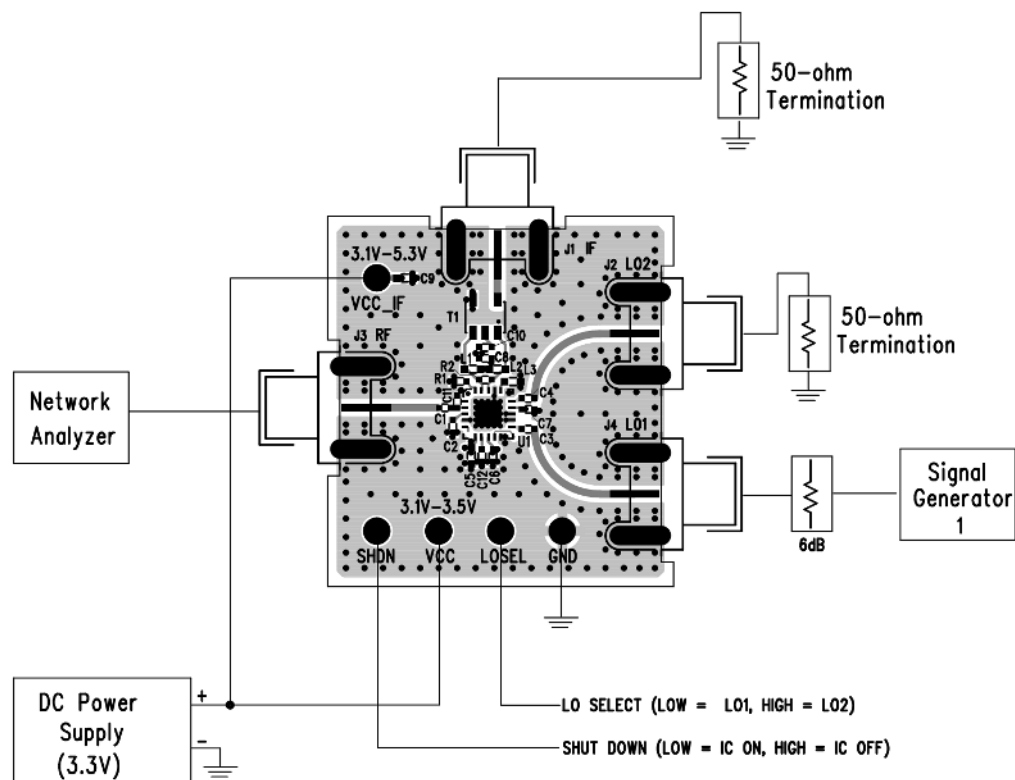
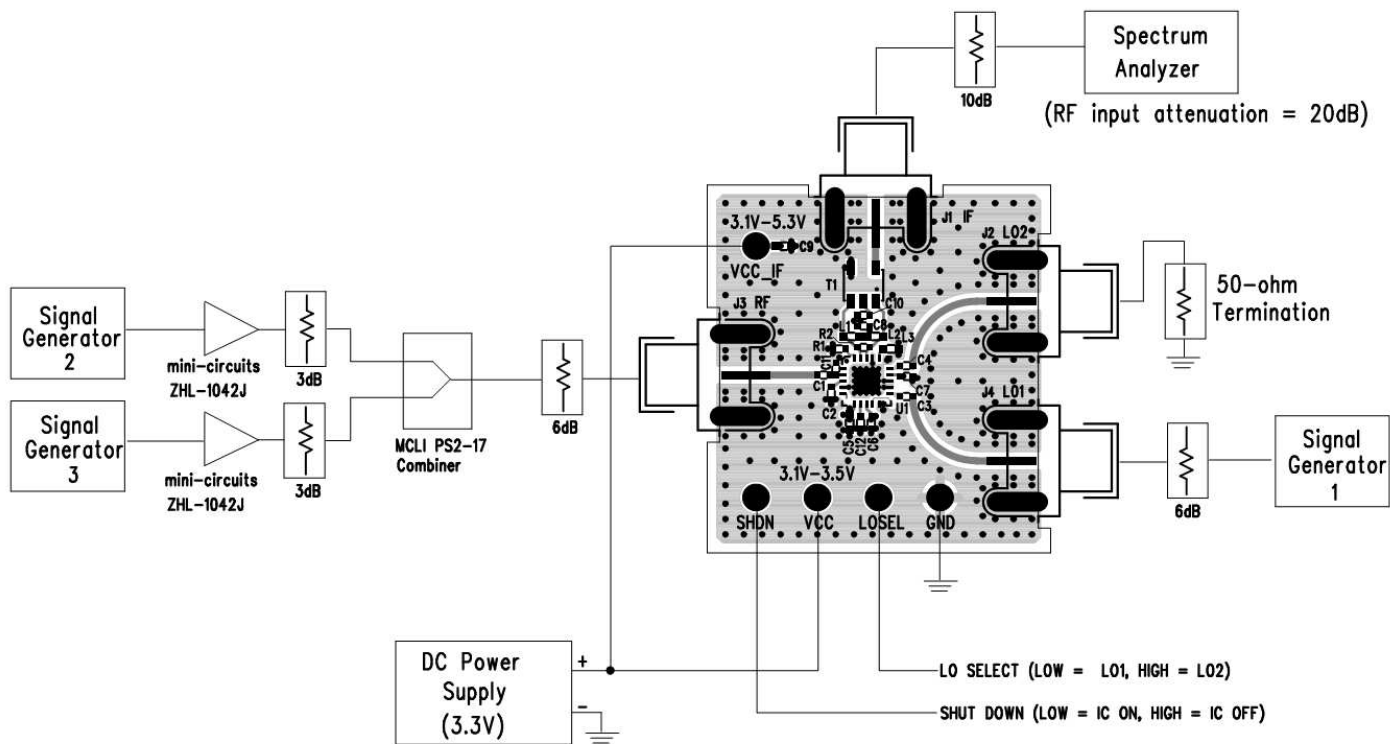
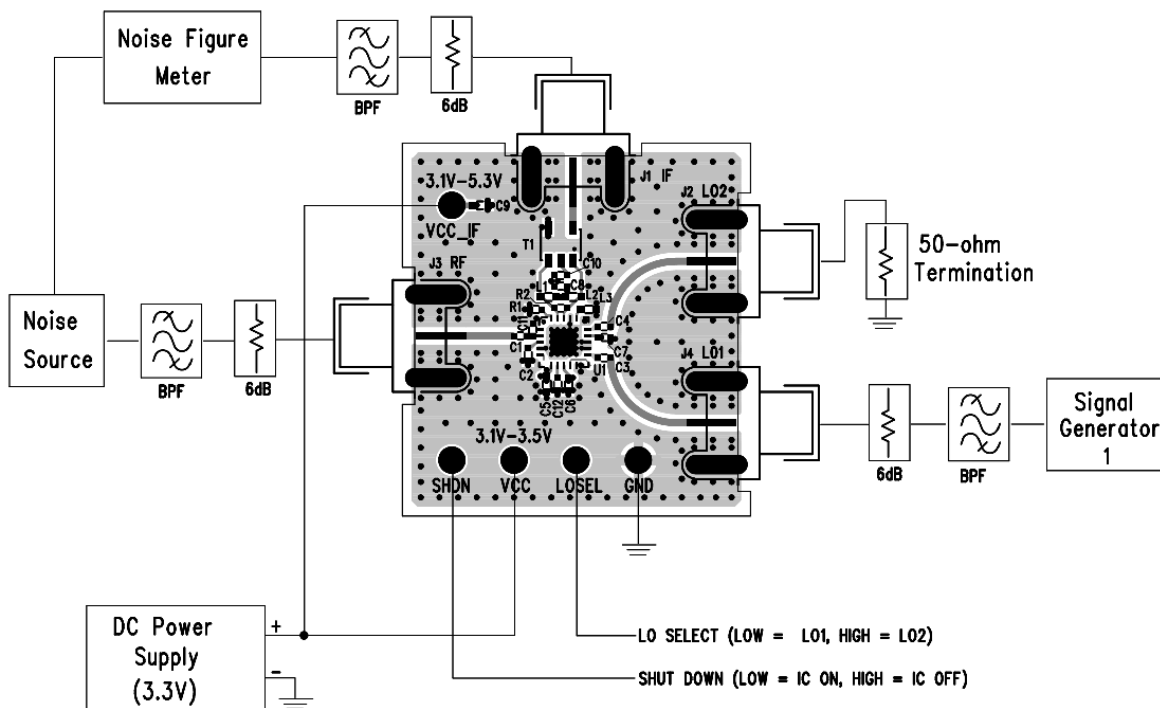

Figure 5. Proper Equipment Setup for Return Loss Measurements
Figure 6. Proper Equipment Setup for RF Performance Measurements
Figure 7. Proper Equipment Setup for Noise Figure Measurement
The LTC5540 is a high dynamic range downconverting mixer IC with very high input 3rd order intercept. Accuracy of its performance measurement is highly dependent on equipment setup and measurement technique. The recommended measurement setups are presented in Figure 5, Figure 6, and Figure 7. The following precautions should be observed:
The LTC5540 consists of a high linearity passive double-balanced mixer core and IF buffer amplifier. Due to the bi-directional nature of all passive mixers, LO $\pm$ IF mixing product is always present at the RF input, typically at a level of 12dB below the RF input signal. If the LO $\pm$ IF "Pseudo-Image Spur" is not properly terminated, it may interfere with the source signals, and can degrade the measured linearity and noise figure significantly. To avoid interference from the LO $\pm$ IF "Pseudo-Image Spur", terminate the RF input port with an isolator, diplexer, or attenuator. In the recommended measurement setups presented in Figure 6 and Figure 7, the 6dB attenuator pad at the demonstration circuit's RF input serves this purpose.
Demonstration circuit 1431A-A is easy to set up to evaluate the performance of the LTC5540. Refer to Figure 5, Figure 6, and Figure 7 for proper equipment connections and follow the procedure below:
3. Connect all test equipment as shown in Figure 5 with the signal generator and the DC power supply turned off.
1. Connect all test equipment as shown in Figure 6 with the signal generators and the DC power supply turned off.
2. Connect all test equipment as shown in Figure 7 with the signal generator and the DC power supply turned off.